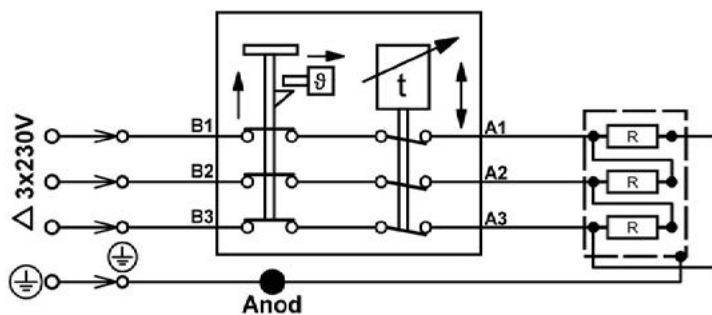

Figure 4
5. Regarding a 230 V Tri connection, see diagram in "Figure 4", page 17.